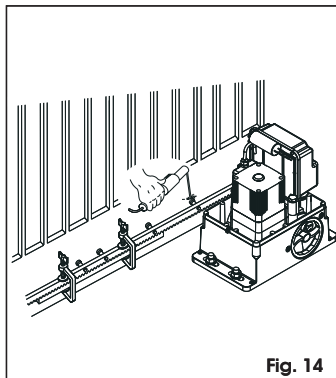

Fig. 14
- Position another rack element end to end with the previous one, using a section of rack (as shown in Fig. 14) to synchronise the teeth of the two elements.
- Position another rack element end to end with the previous one, using a section of rack (as shown in figure 14) to synchronise the teeth of the two elements.